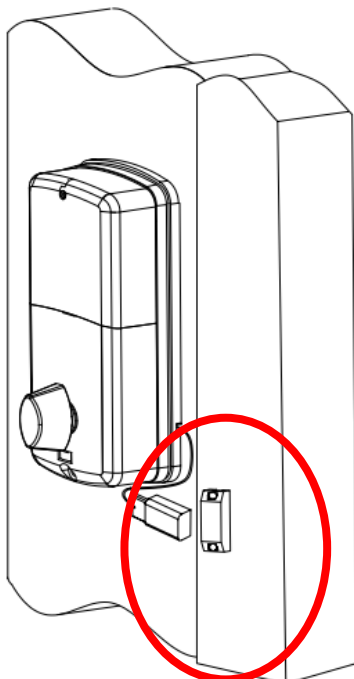
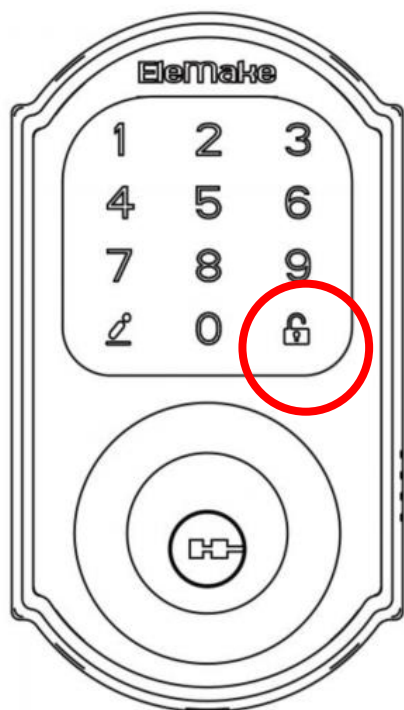

Figure P-5
Figure P-6
(6) Lock the door/Relock(See Figure P-5, Figure P-6)
- b. If user want to use the manual locking/relocking, When door is closed, user touch the “lock”, deadbolt will lock. (See **Figure P-6**)